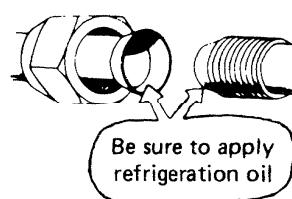

Fig. 27
- Be sure to apply refrigeration oil to the matching surfaces of flare and union before connecting them together. This is effective for reducing gas leaks. Fig. 27